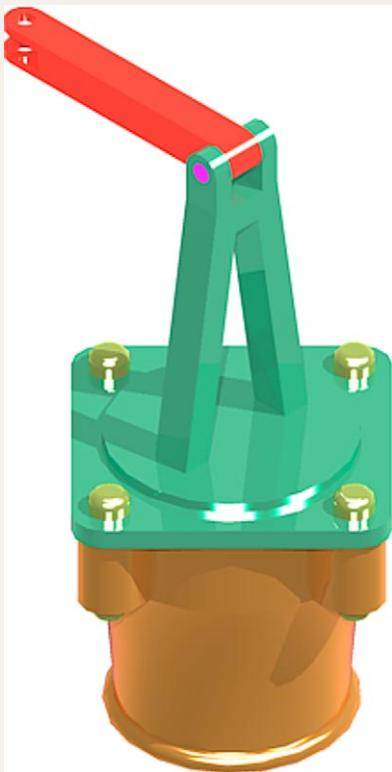
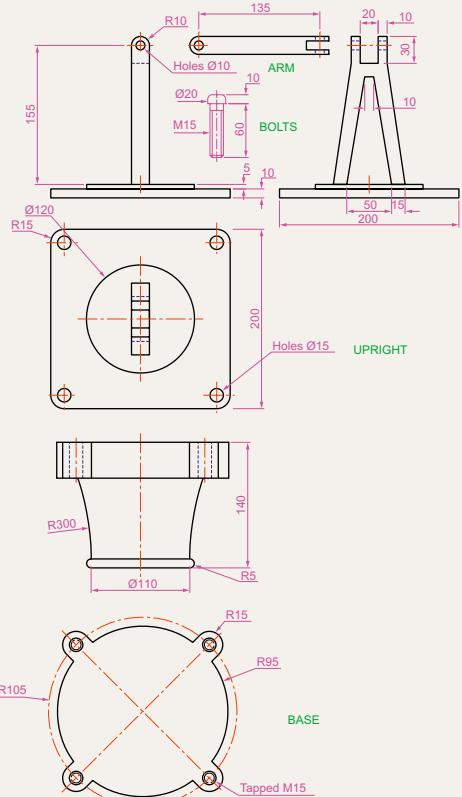

Fig. 18.24 Exercise 3
Fig. 18.25 Exercise 3 – the parts drawing
3. Construct the 3D model shown in the rendering (Fig. 18.24) from the details given in the parts drawing (Fig. 18.25).